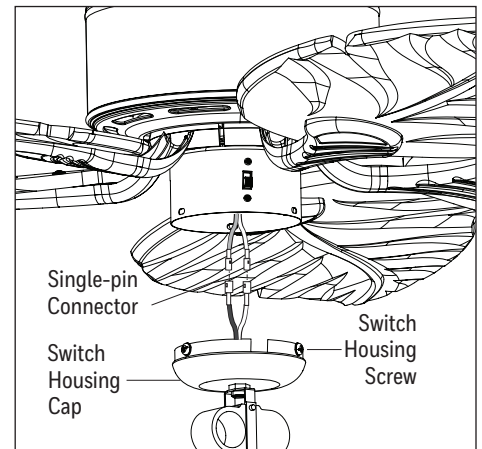

Figure 5.6
- Remove the three switch housing screws from the top edge of the light kit. Then, connect the single-pin connectors from the fan to the light kit -- blue to black and white to white. Ensure the connectors are secure. Then attach the switch housing cap to the switch housing using the switch housing screws (Figure 5.6). **Note:** Align the notch in the switch housing cap with the reverse switch on the switch housing.